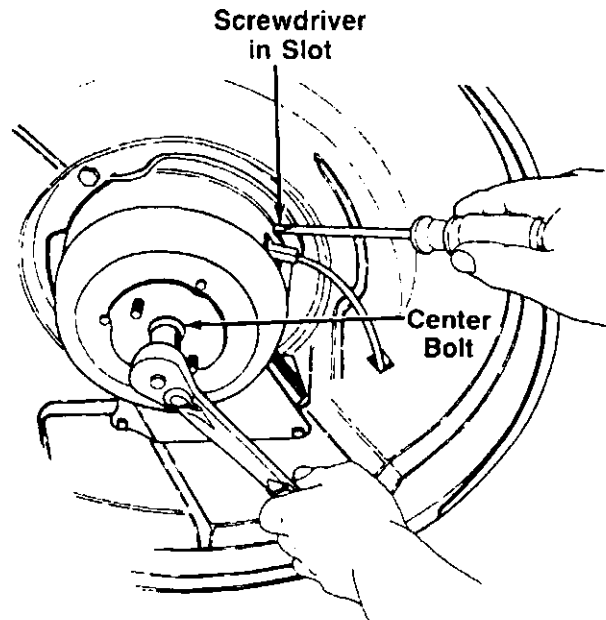

FIGURE 23.
7. Remove the inside belt guard by removing two self-tapping screws. A 3/8" wrench is required. See figure 23.
- a. Insert a screwdriver into the slot provided in the blade brake/clutch housing where the control cable enters the housing. See figure 23.